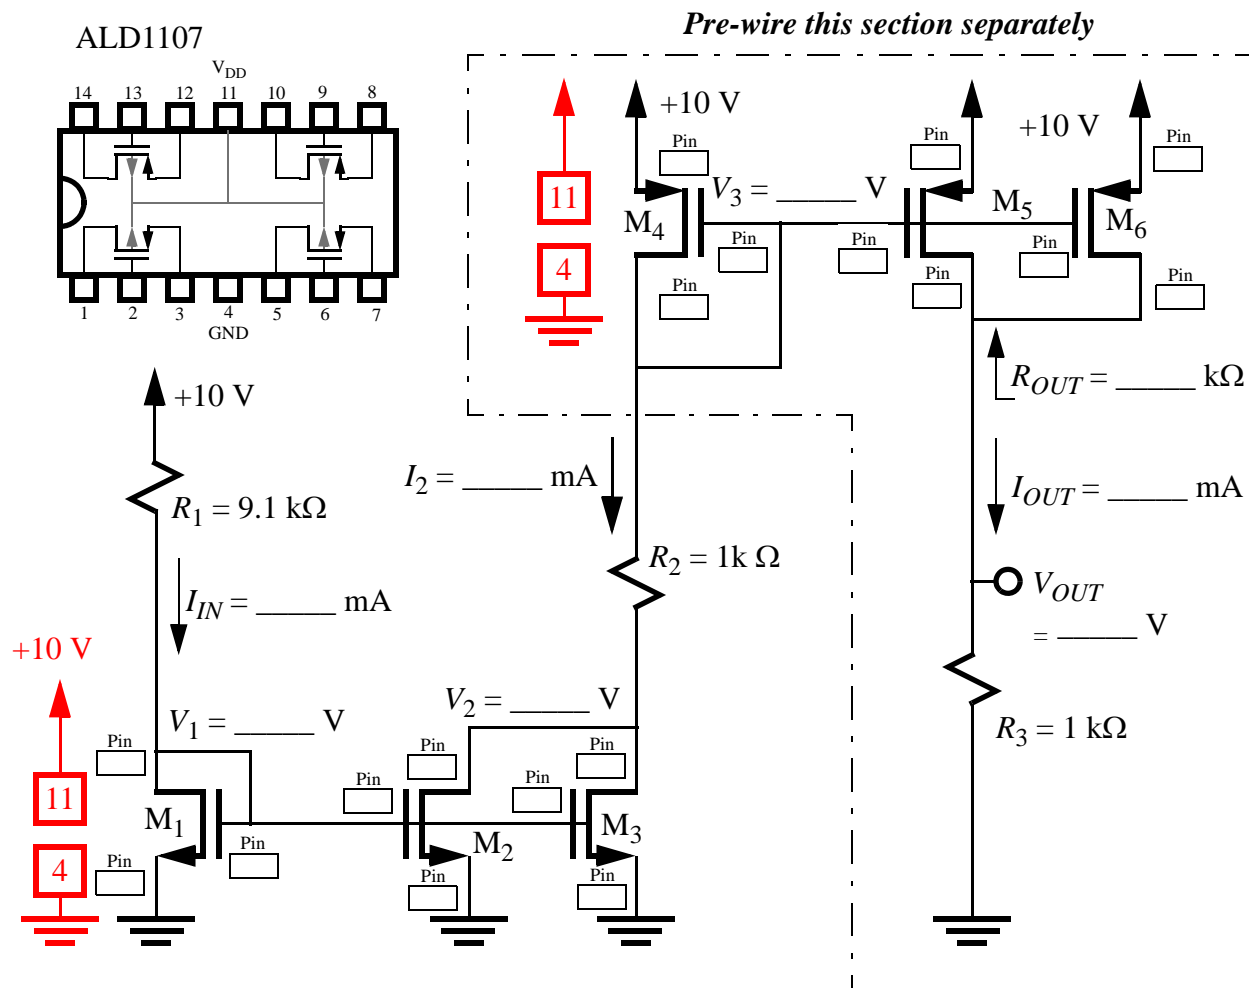
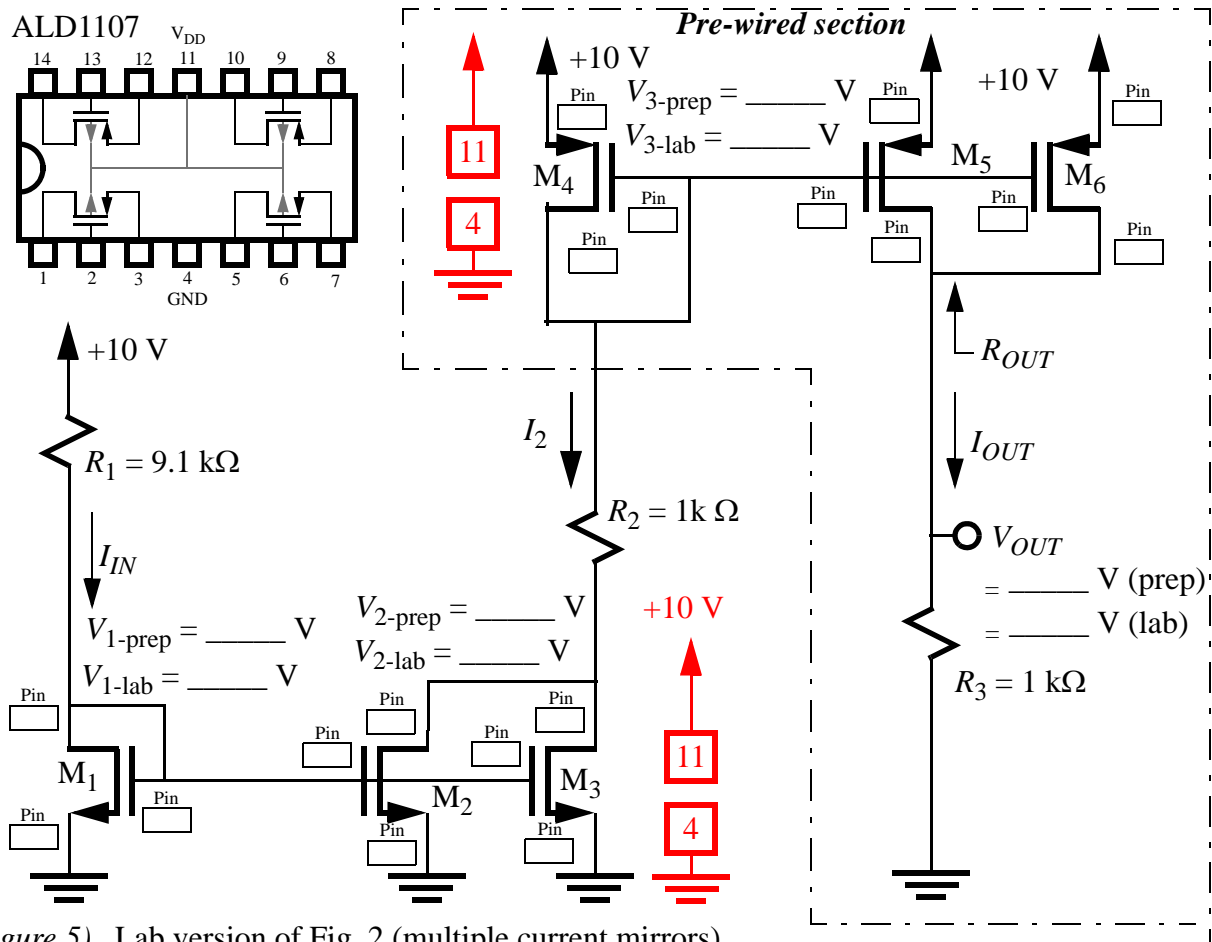

Figure 2) Multiple current mirrors.
Figure 5) Lab version of Fig. 2 (multiple current mirrors).
2. The circuit shown in Fig. 2, contains multiple current mirrors.
1. Construct a multiple current mirror circuit and verify its dc operating point. To do this, power down your circuit. Then, add an NMOS device ( $M_3$ ) and the pre-wired PMOS mirror to your circuit, as shown in Fig. 5 (lab version of Fig. 2). Re-apply 10 V to the circuit. Verify that the circuit is operating properly by measuring its node voltages1, recording them on Fig. 5 and comparing the voltages to the preparation values.